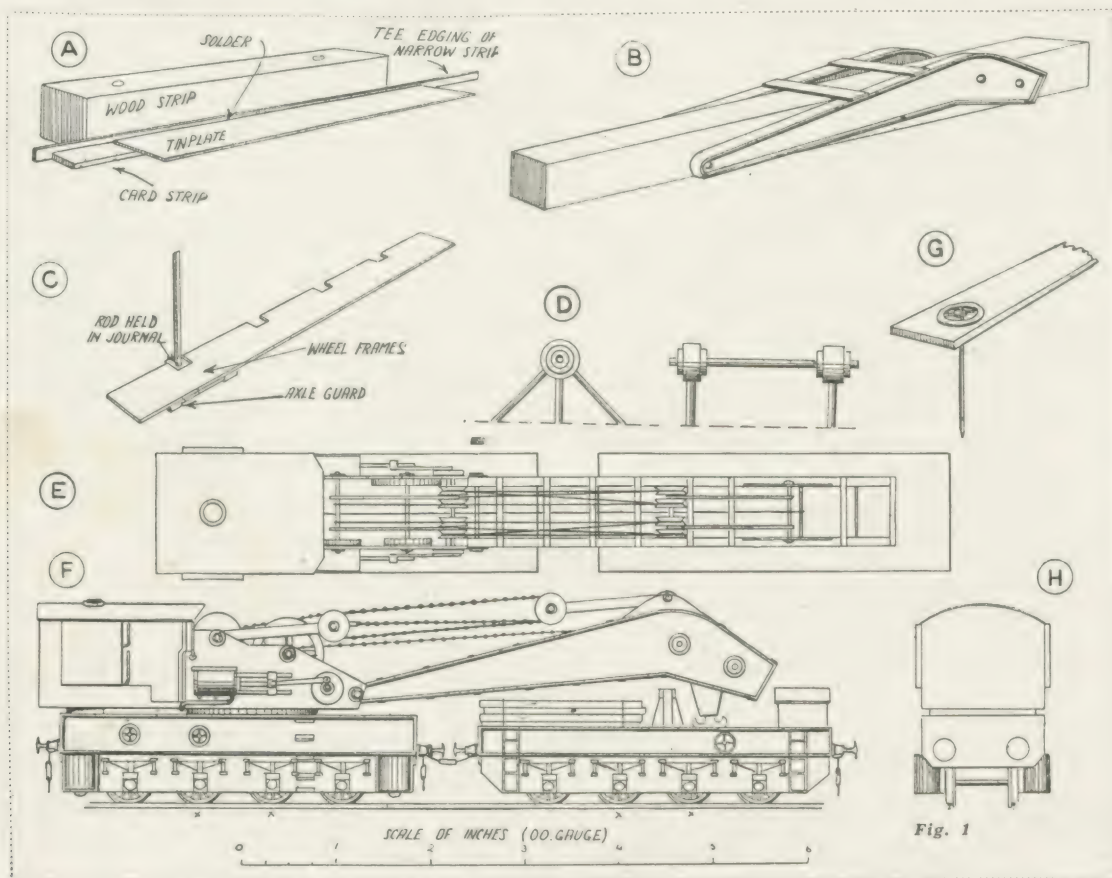

Fig. 1
Next began the work of fitting the axleguards. In Fig. 1 (C) the method of doing this is indicated. The first guard is taken and laid under the frame-piece, with its journal upwards and the spring tops just showing evenly on the edge of the strip.
The bridle, which consists of the headstall, bits and reins, is attended to as seen by the elevation at Fig. 1. A detail of the bits is at Fig. 5, H serving to show what they are like prior to inserting (K). The reins can be made from strips of leatherette but owing to the stiffness of this material, you have the alternative of using braided thread, preferably cotton thread.